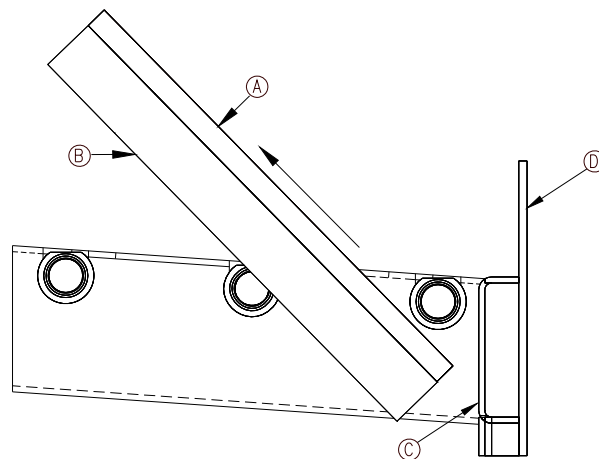

Figure 3.4a
1. Stack the baffle boards (A) on top of the vermiculite boards (B) as shown in figure 3.4a .